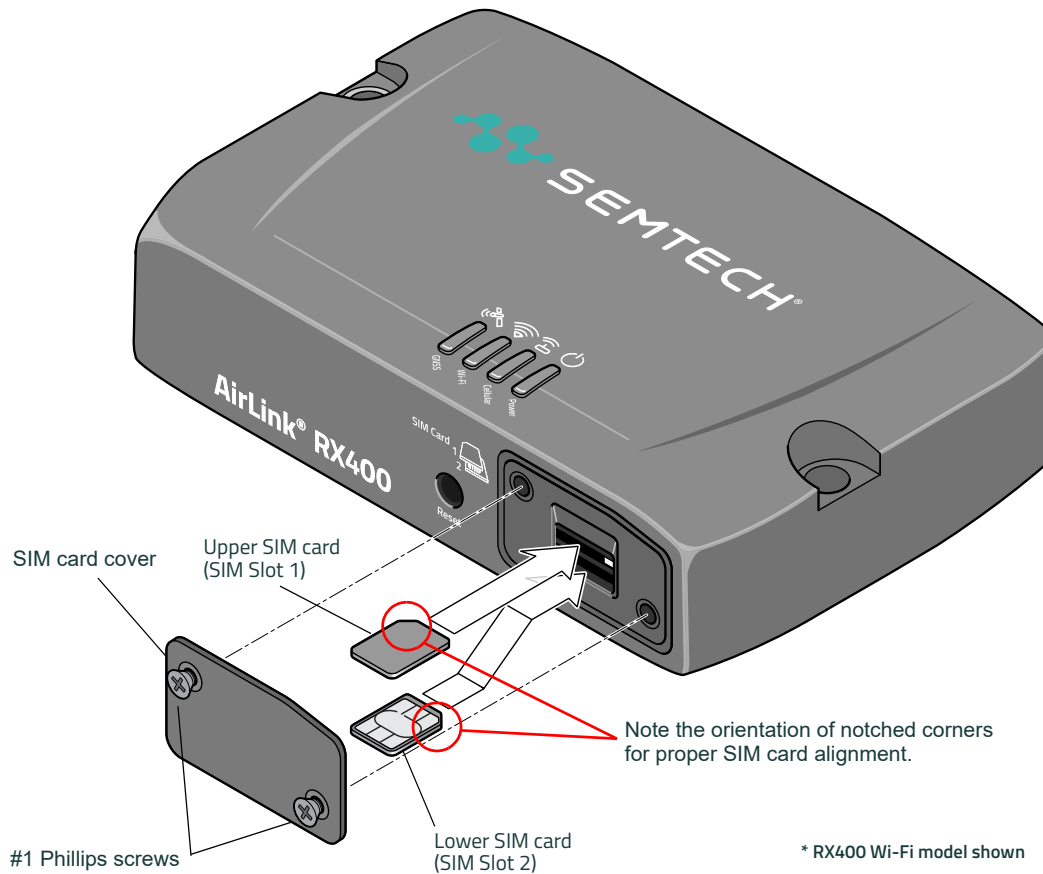

Figure 2-1: Installing the SIM Card
2. Orient the SIM card(s), as shown in Figure 2-1. Note— If you are using only one SIM card, insert it in the upper SIM slot (Slot 1).